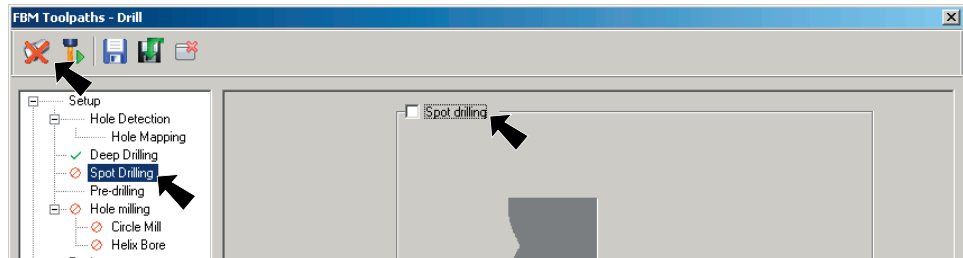

Fig. 7
Step 4. Select **Spot Drilling** from the tree control and uncheck **Spot Drilling** check box, Fig. 7.
Step 5. Click **Detect** button  at the top of the dialog box to find the holes, Fig. 7.